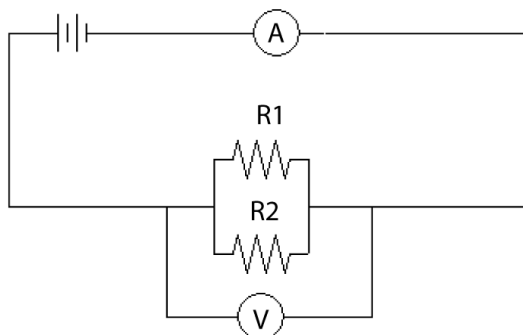

Figure 2.14: Schematic for 2 resistors connected in parallel.
4. **Construct the circuit shown in Fig. 2.14.** Use two different resistors having resistances of approximately $1\text{ k}\Omega$ and $2\text{ k}\Omega$. Set the power supply voltage to the middle of its range and record your measured voltage and current in Data Table 4. For two resistors wired in parallel, the uncertainty of the equivalent resistance is given by Eq. 2.6.